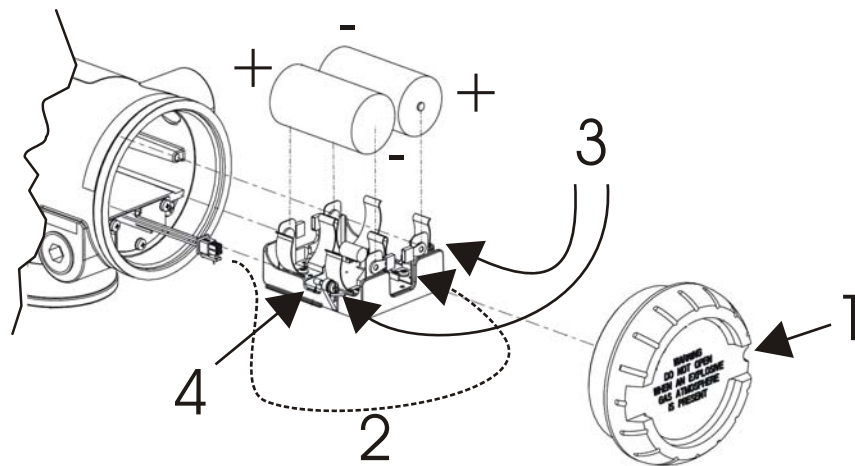

Figure 10 Battery replacement
1	Loosen the M3 locking set screw on the battery end-cap (opposite end from display). See item 1 in Figure 10. Unscrew and remove the end cap.
2	Using thumb and forefinger, squeeze the battery connector at top and bottom to disengage the locking mechanism, then pull to disconnect. See item 2 in Figure 10.
| 3 | Loosen the two battery holder retaining screws (closest to the batteries). See item 3 in Figure 10. The screws are captive. |
| 5 | Remove the old batteries from the battery holder. If needed, pry out the batteries by using a slotted screwdriver as a lever in the holder's side slots. See item 4 in Figure 10. |